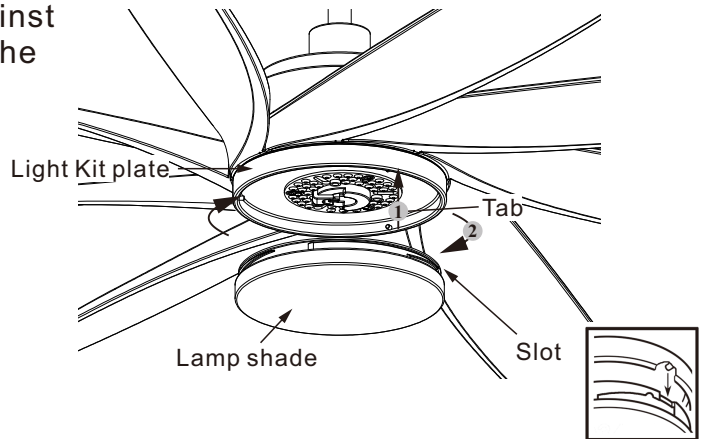

Figure 20a
Step 4. Install light shade or bottom cap up against light kit plate and secure it to the fan by turning the light shade clockwise until snug. (DO NOT OVERTIGHTEN). (Fig.20a/b)